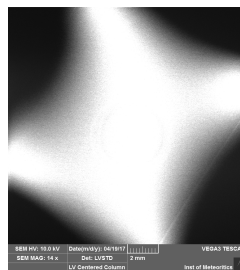

Figure LV4. Centered electron column in low vacuum mode.
- a. Adjust the X and Y knobs on the CONTROL PANEL to force the beam into a skewed rectangle (see Figure LV4).